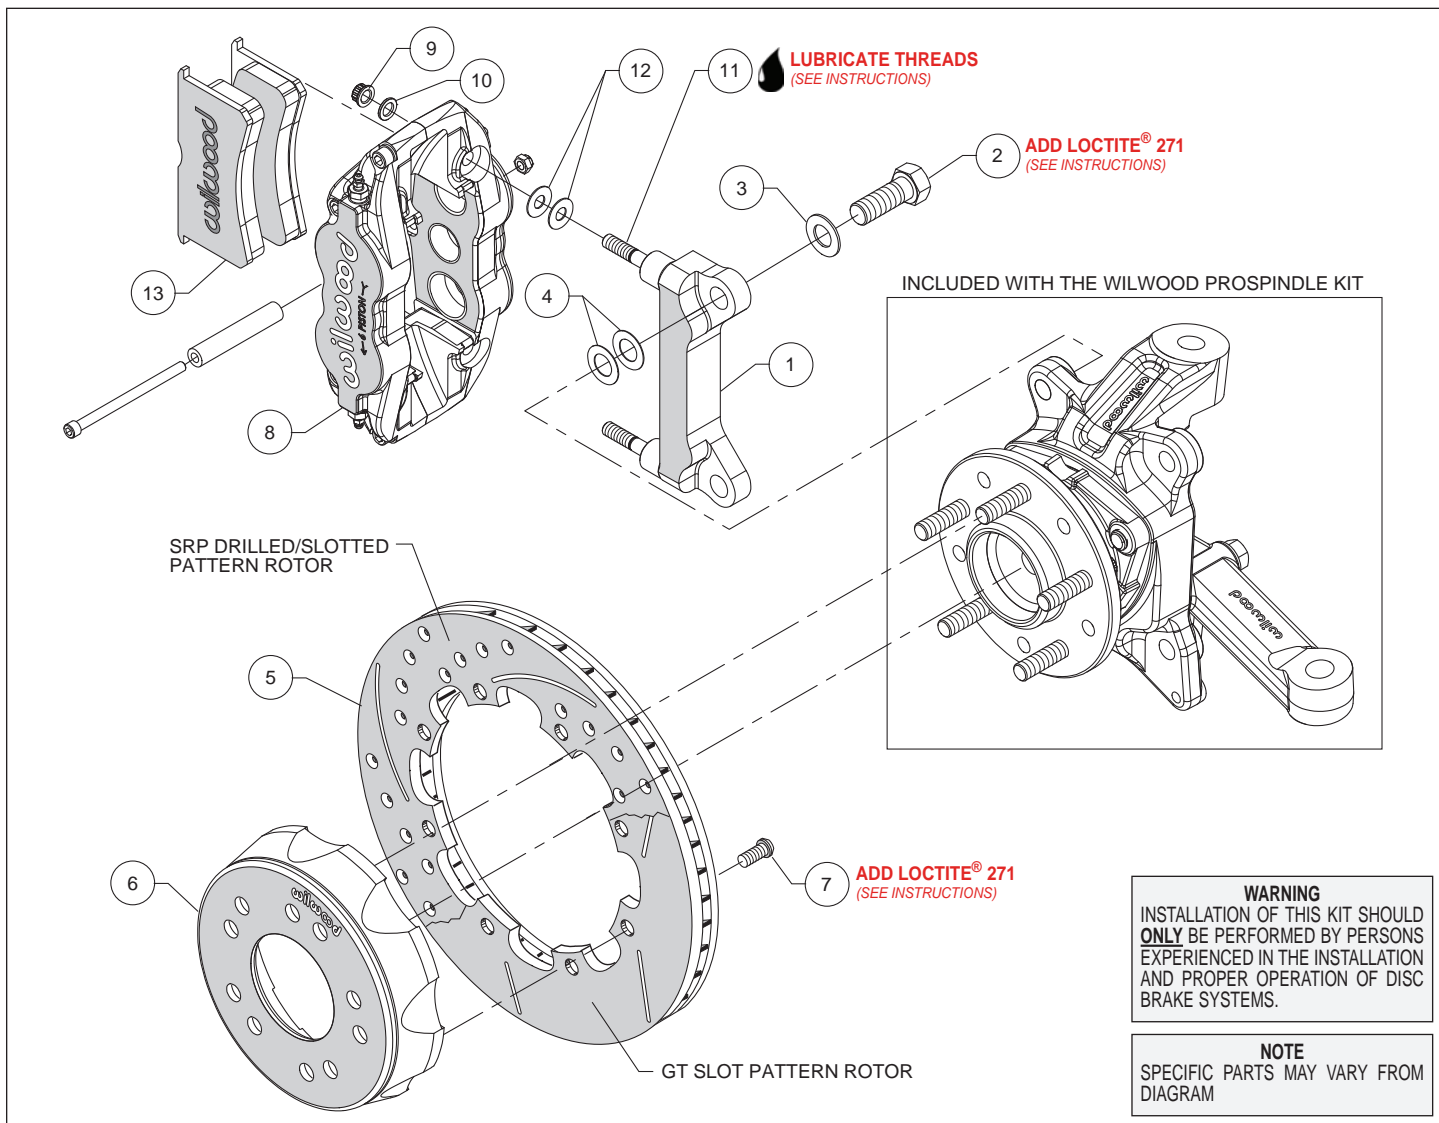

Figure 1. Typical Installation Configuration
Assembly Instructions (numbers in parenthesis refer to the parts list and Figure 1 on the preceding pages):
- The caliper mount bracket (1) should initially be installed with clean, dry threads on the mounting bolts. Orient the bracket as shown in Figure 1 and Photo 1 and install using mount bolts (2) and washers (3). Initially place two .024" thick shims (4) on each bolt between the bracket and spindle, Figure 1. Temporarily tighten the mounting bolts. **NOTE:** The bracket must fit squarely against the mounting points on the spindle. Inspect for interference from casting irregularities, machining ridges, burrs, etc. Later, after the caliper alignment has been checked, the mount bolts will be secured using red Loctite® 271.
- Orient the rotor (5) and the hat (6) as shown in Figure 1 and Photo 2. Attach rotor to hat using bolts (7). Using an alternating sequence, apply red *Loctite*® 271 to the threads, and torque to 25 ft-lbs.
- **NOTE:** *This kit contains distinct right and left hand calipers that must be mounted in a specific direction, as described below.* Lubricate the caliper mounting studs (11) with lightweight oil. Initially place two .035" thick shims (12) on each stud as shown in Figure 1 and Photo 5. Mount the caliper (8) onto the bracket (1) using lock nuts (9) and washers (10), Figure 1. Temporarily tighten the lock nuts. Ensure that the caliper is mounted so that the largest pistons are at the rotor exit end of the caliper, in relation to the direction of rotor rotation. View the rotor through the top opening of the caliper. The rotor should be centered in the caliper, Photo 6. If not, adjust by adding or subtracting shims (4) between the bracket and the spindle. Always use the same amount of shims on each of the two mounting bolts. Once the caliper alignment is correct, remove the bracket mounting bolts one at a time, apply red *Loctite*® 271 to the threads, and torque to 140 ft-lb.